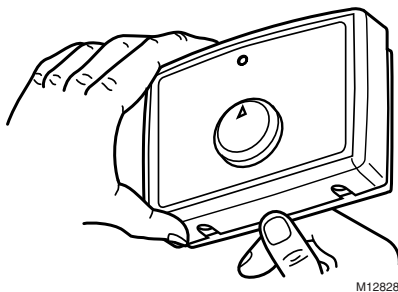

Fig. 3. Remove cover from base.
1. Remove the cover by placing your thumb in the bottom notch between the cover and the base and pulling out and up. See Fig. 3.